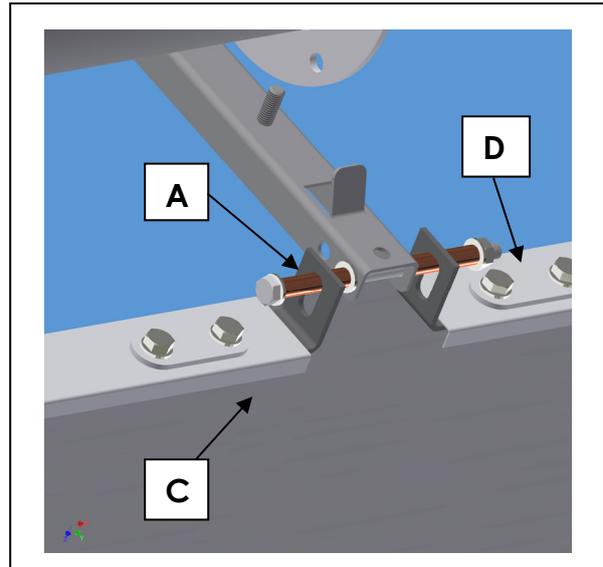

Fig. 56: Mounting of reflector elongation on hanger
2. Mount bolts with spacer sleeves and mounting brackets **A** at required positions [Fig. 56].
4. Place reflector elongation **C** on mounting brackets **A** and bolt them together with reinforcement plates **D** [self-securing nut M8] [Fig. 56].